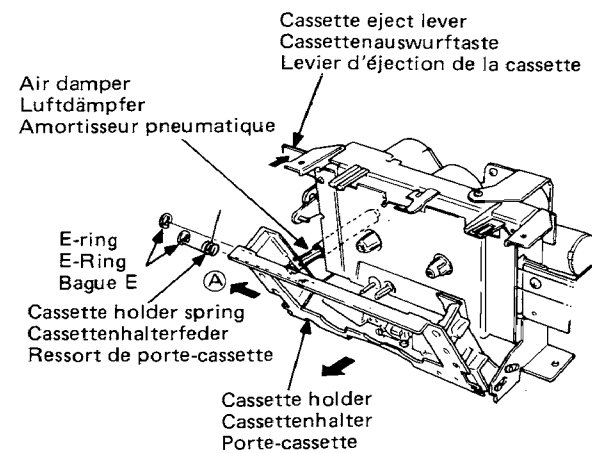

Fig. 7 Abb. 7
#### (1) Cassette holder (Fig. 7)
## (1) Cassettenhalter (Abb. 7)
(1) Porte-cassette (Fig. 7)